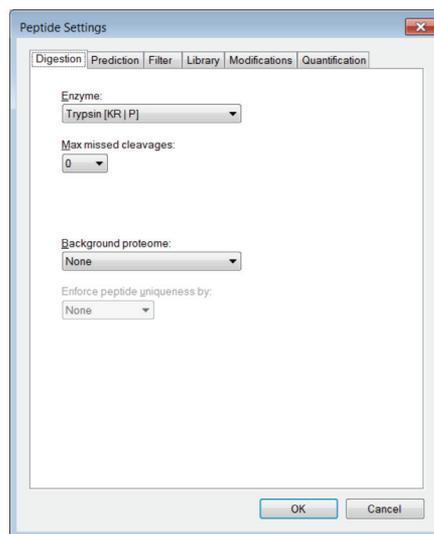

Figure 4. In silico digestion settings in Skyline.
Step 2. When performing in silico digestion, the parameters should be set to match your experiment. For example, under Settings > Peptide Settings > digestion tab the default choice is Trypsin as the enzyme and zero Max missed cleavages (Figure 4).